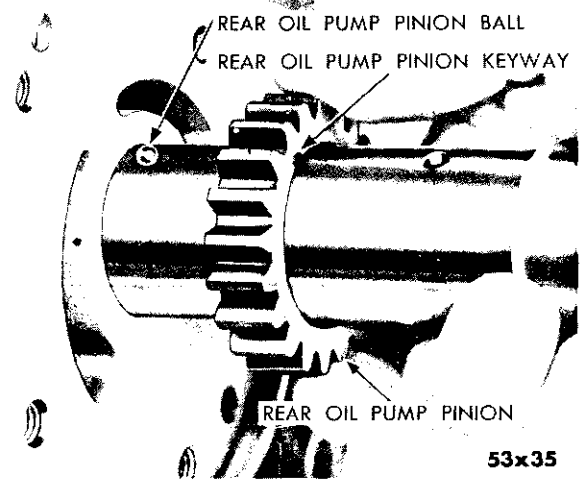
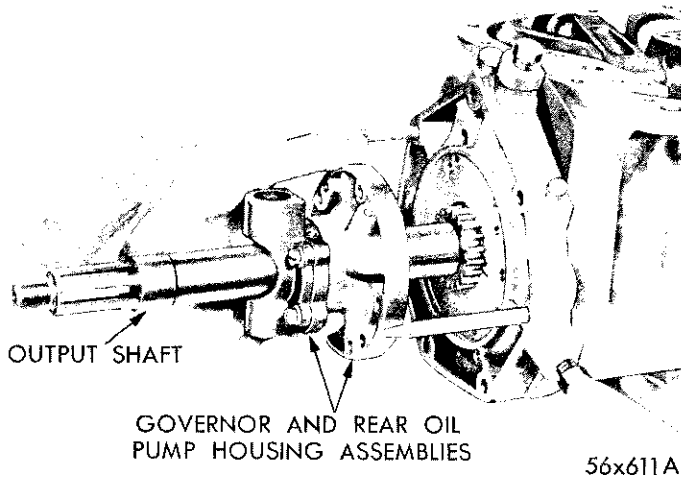

Fig. 86—Removal and Installation of Rear Oil Pump Pinion
Fig. 87—Removal and Installation of Governor and Rear Oil Pump Housing Assemblies
(1) Place the rear oil pump pinion ball in ball pocket in output shaft.
(2) Lubricate the rear oil pump drive pinion. Place over the output shaft and slide into position aligning the keyway in pinion with ball in shaft, as shown in Figure 86.
(3) Lubricate the rear oil pump gear and position it in the pump housing, rounded edge down.
(4) Slide the rear oil pump and governor assemblies over the output shaft and position it against the support, as shown in Figure 87. There are two extra holes in the housing which are used for vents.